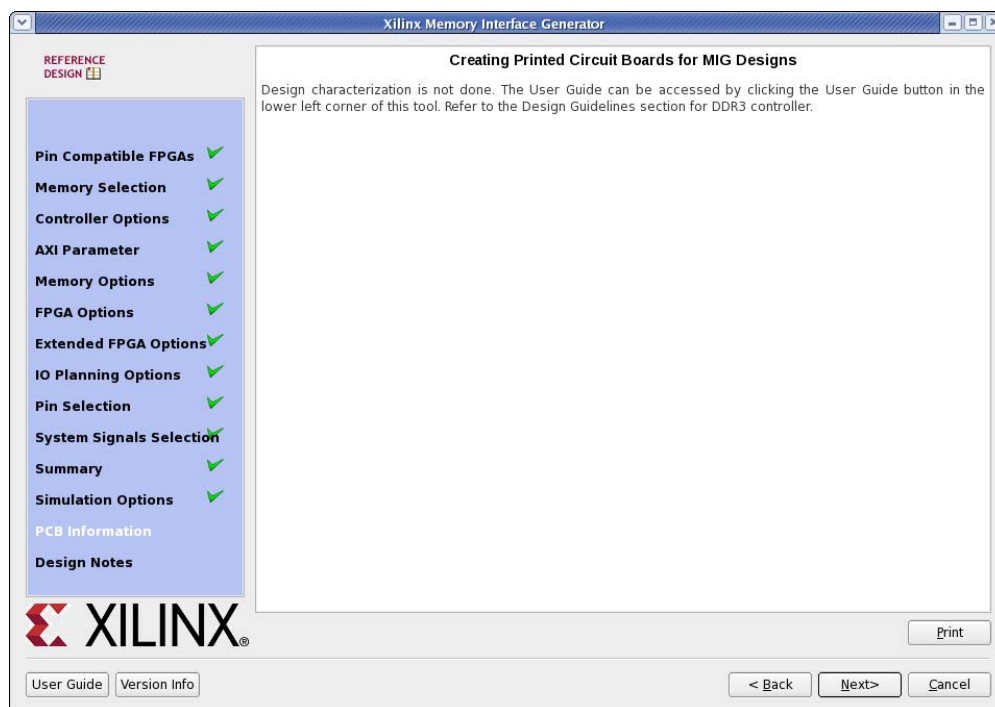

Figure 39: MIG PCB Information
19. This window mentions that important PCB information is contained in the User Guide that is accessible by clicking the button in the lower-left corner (Figure 39).